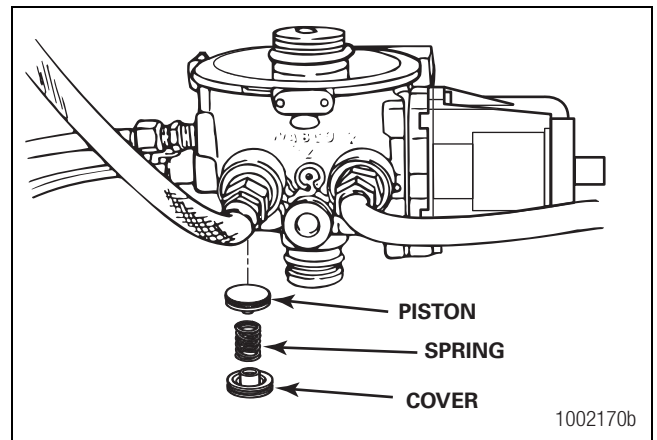

Figure 3.8
3. Use needle nose pliers to remove the piston. Figure 3.8.
4. Clean and inspect the valve bore. If the bore is damaged so that a tight seal cannot be maintained, replace the air dryer. Figure 3.8.